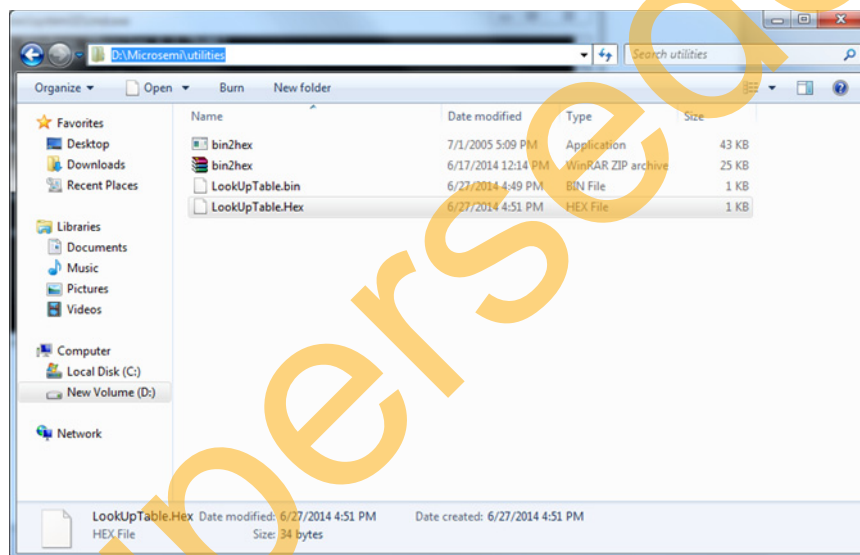

Figure 1-4 • LookUpTable.Hex File
4. **LookUpTable.Hex** file is generated as shown in Figure 1-4. This file is copied to SoftConsole project folder of the eNVM Data client SoftConsole project.